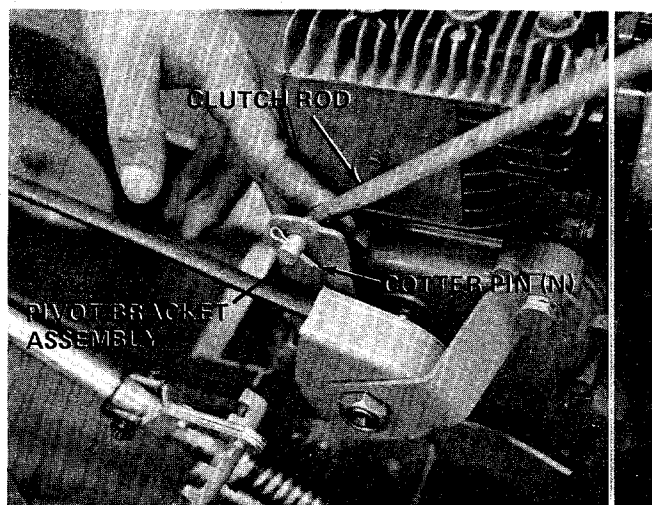

FIGURE 10.
- Place other end of clutch rod into hole on pivot bracket assembly as shown in figure 10. Secure with cotter pin (N).